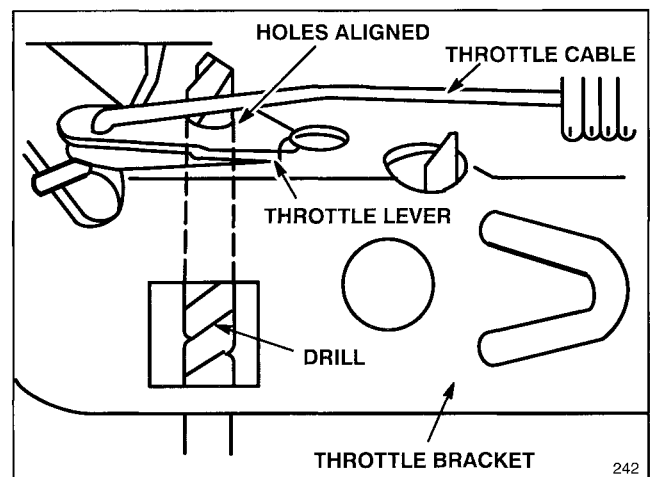

Figure 18
3. Loosen cable clamp screw until throttle cable slides (Fig. 17). Align holes in throttle lever and throttle bracket using a $\frac{1}{8}$ " diameter drill (Fig. 18). Tighten cable clamp screw to lock adjustment in place.